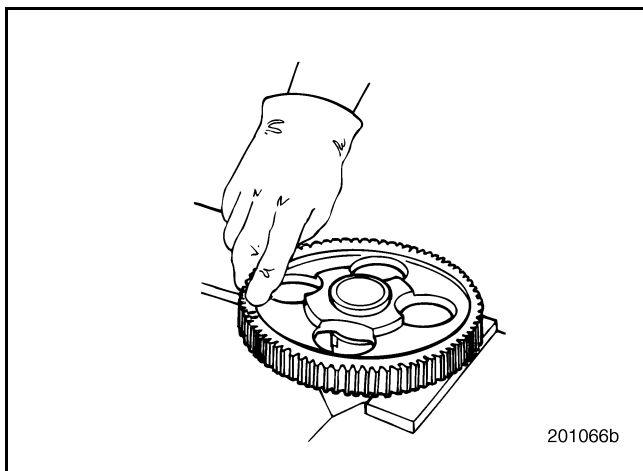

Figure 229 — Camshaft Gear Installation, Heat Method
6. Remove the gear from the oven and position it on the camshaft with the keyway and key aligned and the timing marks facing up (Figure 229).